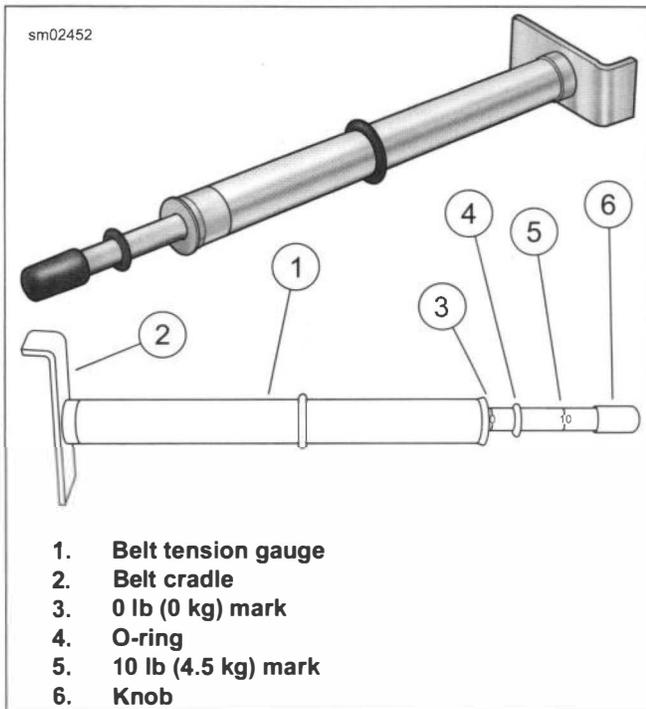

Figure 2-27. Belt Tension Gauge
- a. Remove screws (1) and lower belt guard (2).
3. See Figure 2-27. Measure belt deflection using: